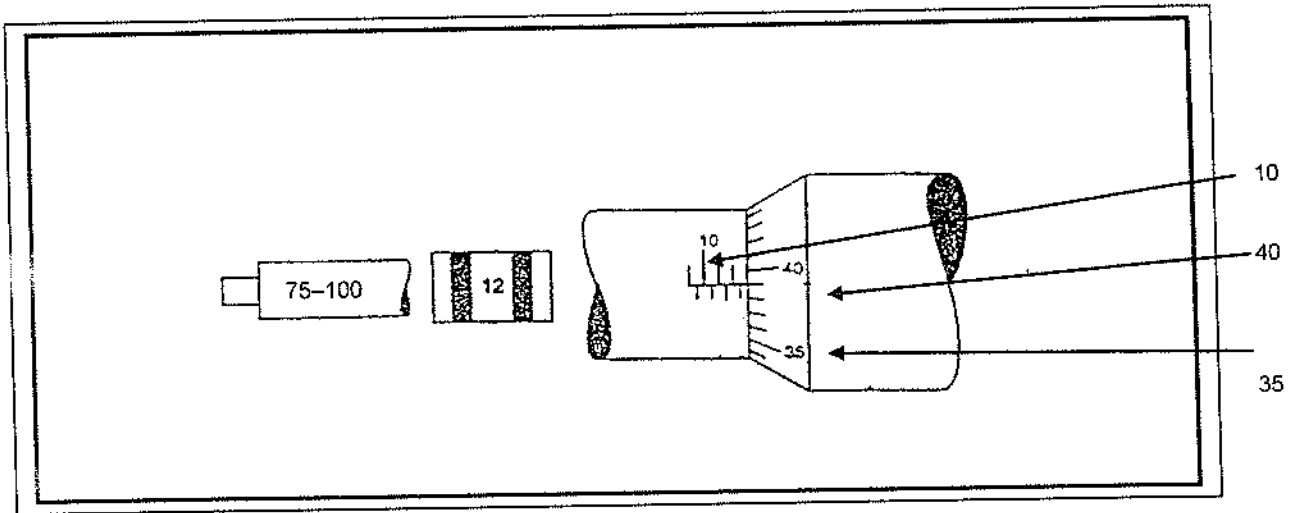

FIGURE 2
Answer the questions below by making reference to FIGURE 2.
- 2.1.1 Write down the correct reading as seen in FIGURE 2. (1)